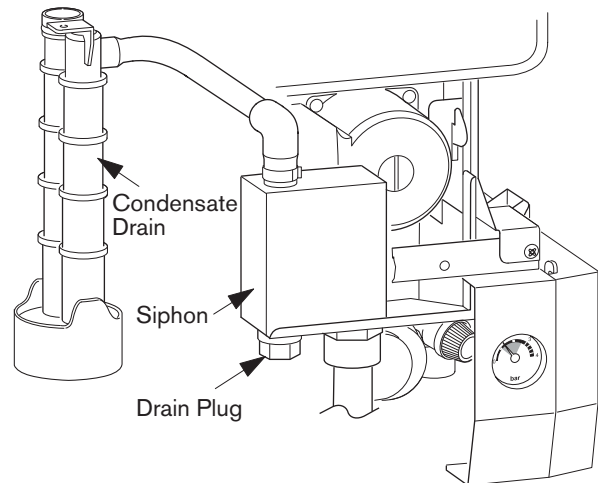

Fig. 53
- ▶ Unscrew and remove the the siphon by releasing the jubilee clip. Refer to fig. 53.